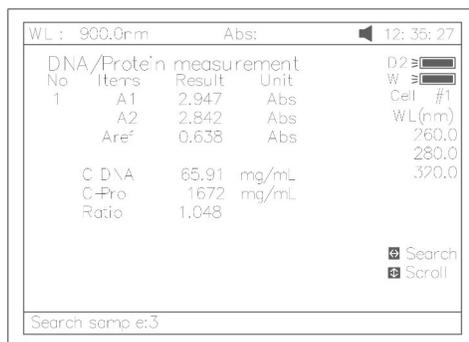

Fig 66
7. Press the key **【 < >】** for searching. Input the sample number (Fig 66), the result will be displayed on the screen. Press the key **【 ^ & v】** to browse the test results one by one.